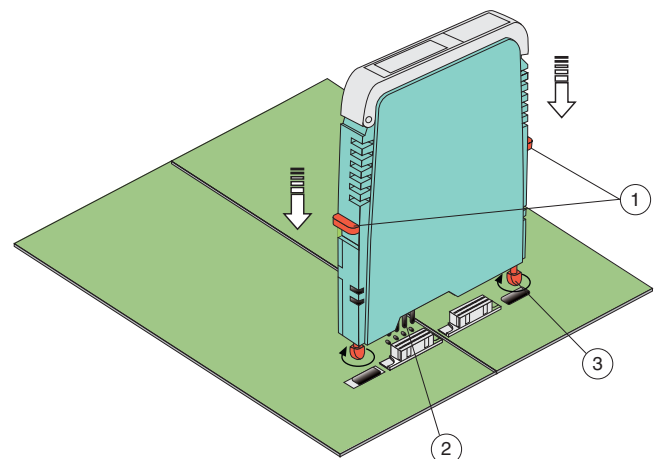

Figure 9 Proper mounting of an H-System isolated barrier
- Ensure that the red Quick Lok Bar (1) is in the upper position.
- Observe the plug orientation of the device. Insert the coding pins (2) of the module in the corresponding coding holes on the board. Now center the adjustment pins (3) to the adjustment holes on the Termination Board.
- For the mechanical adjustment of the module press the red Quick Lok Bar (1) down on either side of the device (see Figure 9)